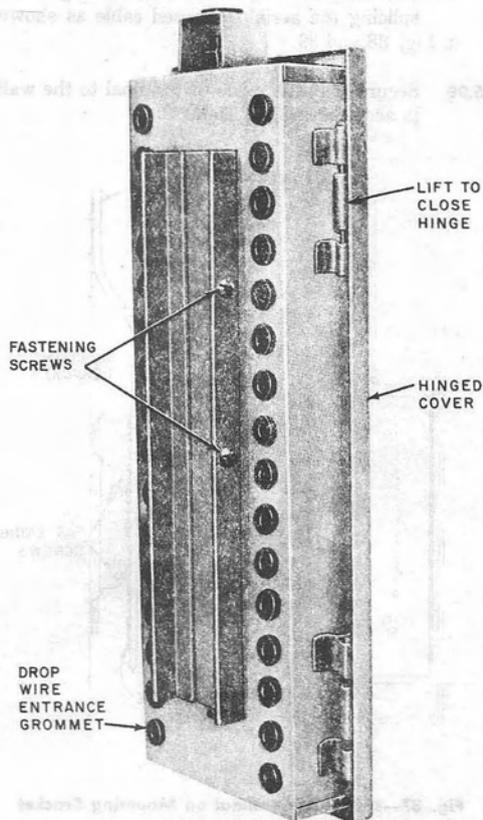

Fig. 36—53-Type Cable Terminal (Rear View)
- (2) Back off the four fastening screws (Fig. 36) on the back of a terminal sufficiently to engage into the slots of the mounting bracket.